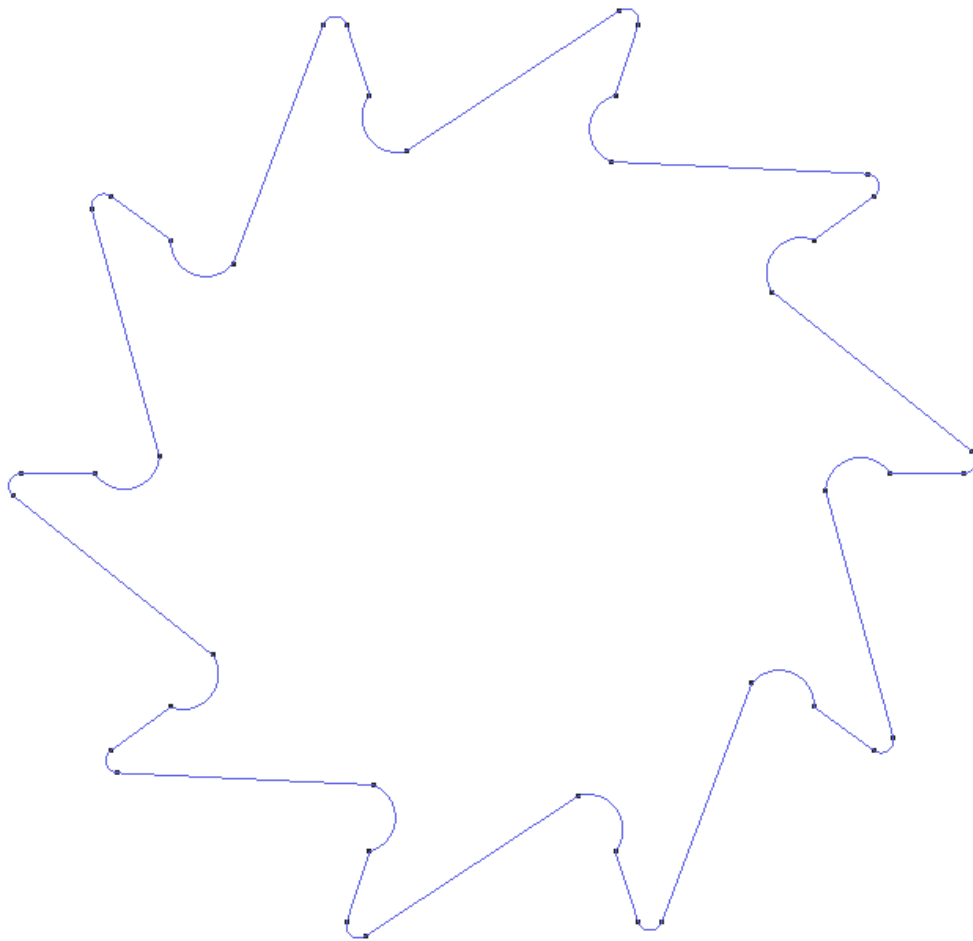

Figure 15. The part resulting from this process
- 5 . Click **Select** and select the lines defining the profile. Press the **ESC** key or click **Finish** in the **Copy** window in order to conclude the operation. The result is shown in Figure 15.